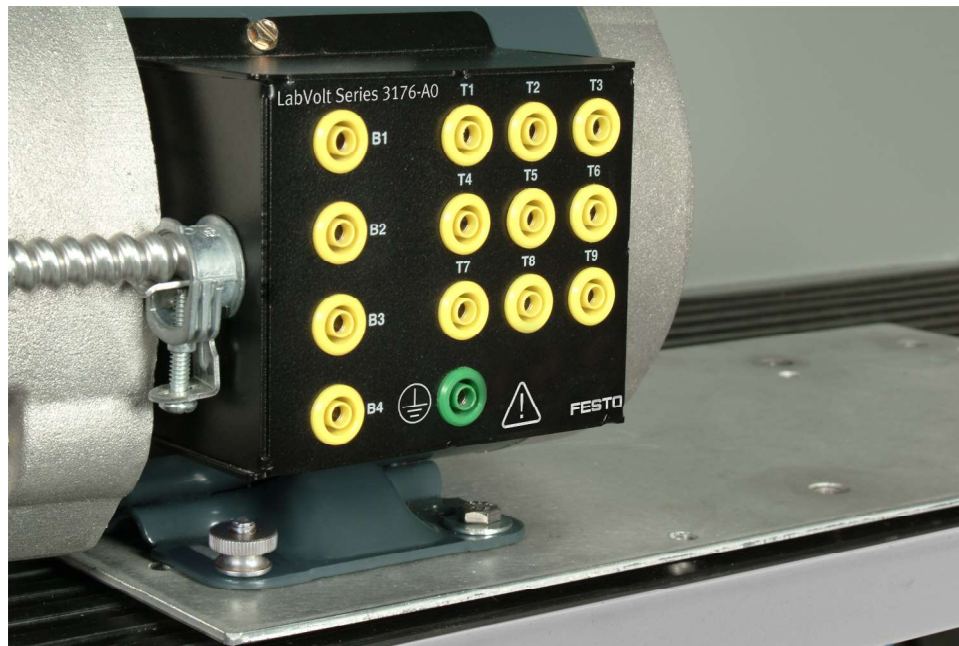

Figure E-1. Install the Brake Motor on the mounting plate.
- Fix the Brake Motor to the mounting plate of the workstation using hexagonal head screws with knurled nuts or with washers when placing the head of the screw on top. Figure E-1 shows the two fixing methods.